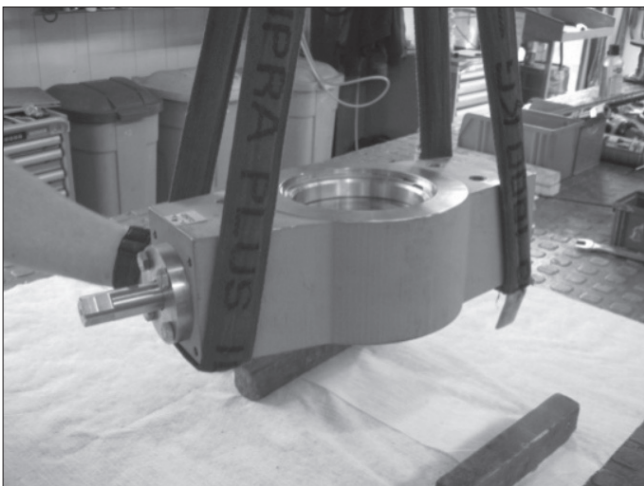

Fig. 12 Securing the valve
- Support the valve with safety ropes. Attach the ropes to the body (NOT the drive shaft) of the valve (see fig. 12).